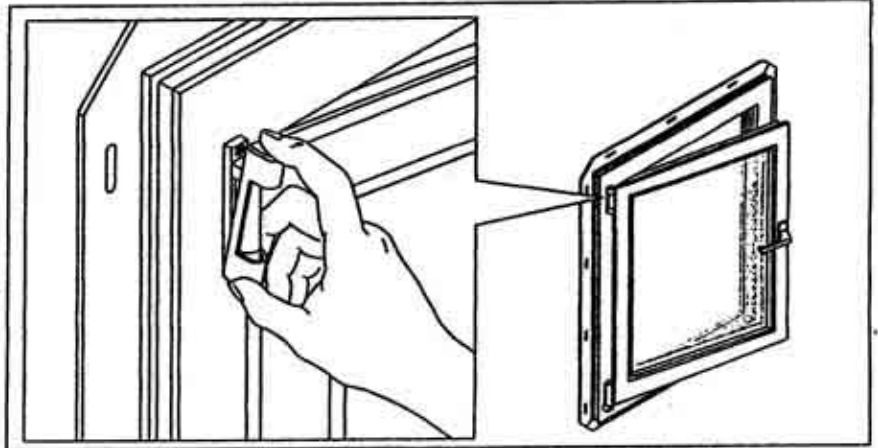

Figure 2-7. How to remove the hinge cap
- 3.2 Pull off the hinge cover. If you do not partially open the sash, you cannot remove the hinge cover. See Fig. 2-7.